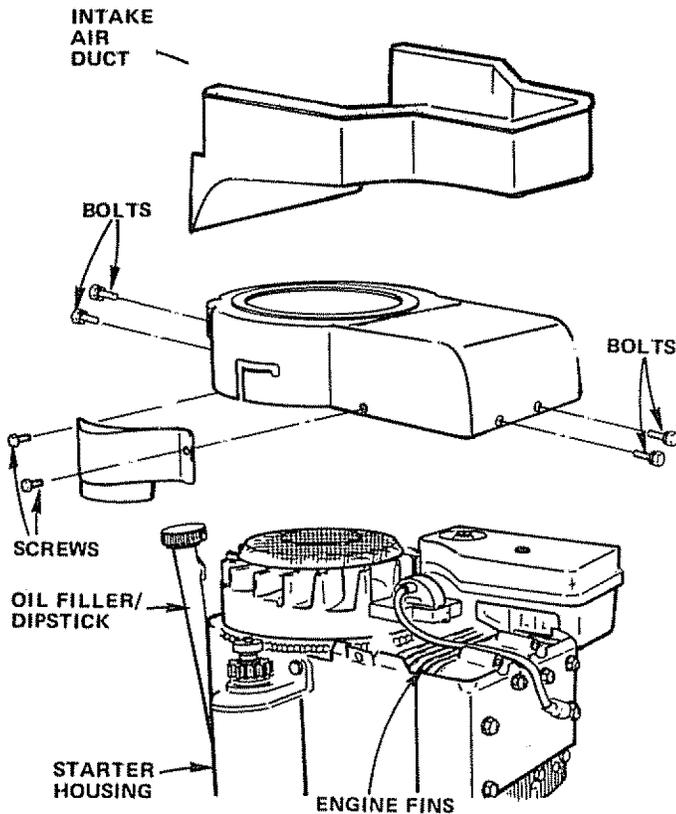

FIGURE 29
Several minutes after stopping Engine, check Engine Oil Level with Tractor on level ground. Remove and wipe Dipstick clean (Fig. 29), screw it in tight for a few seconds, remove slowly and read Oil level. If necessary, add Oil until "FULL" mark is reached.
- a. Pull up to remove Intake Air Duct (Fig. 29).